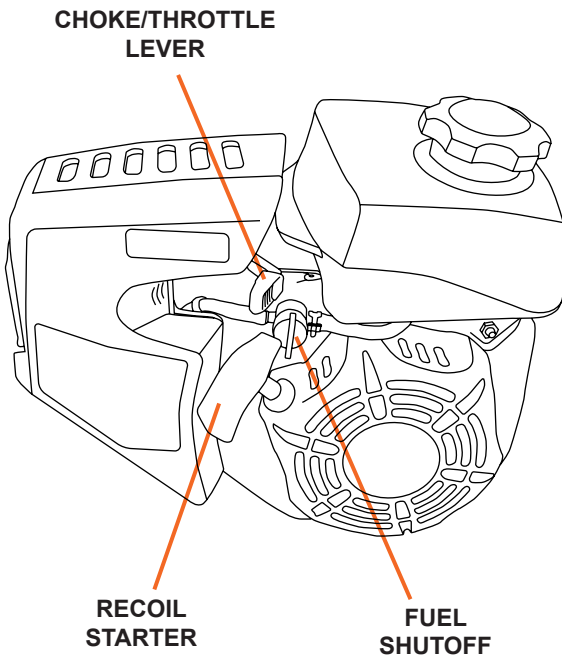

Figure 7
1. Turn the Engine ON/OFF switch to ON (see Figure 7).